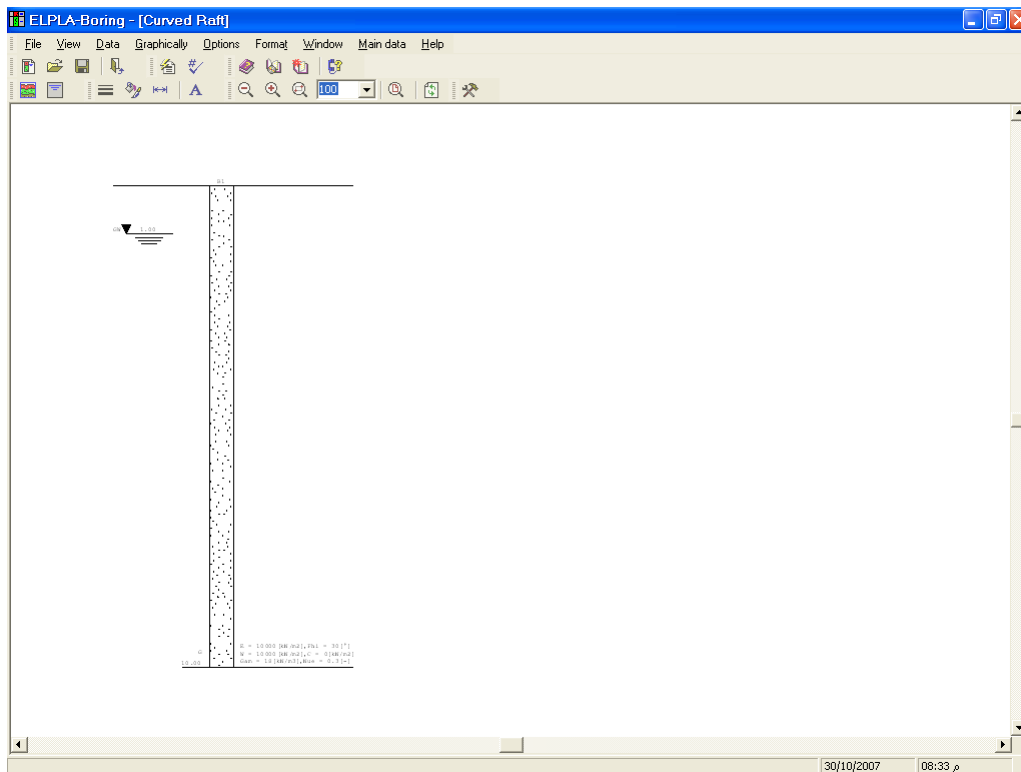
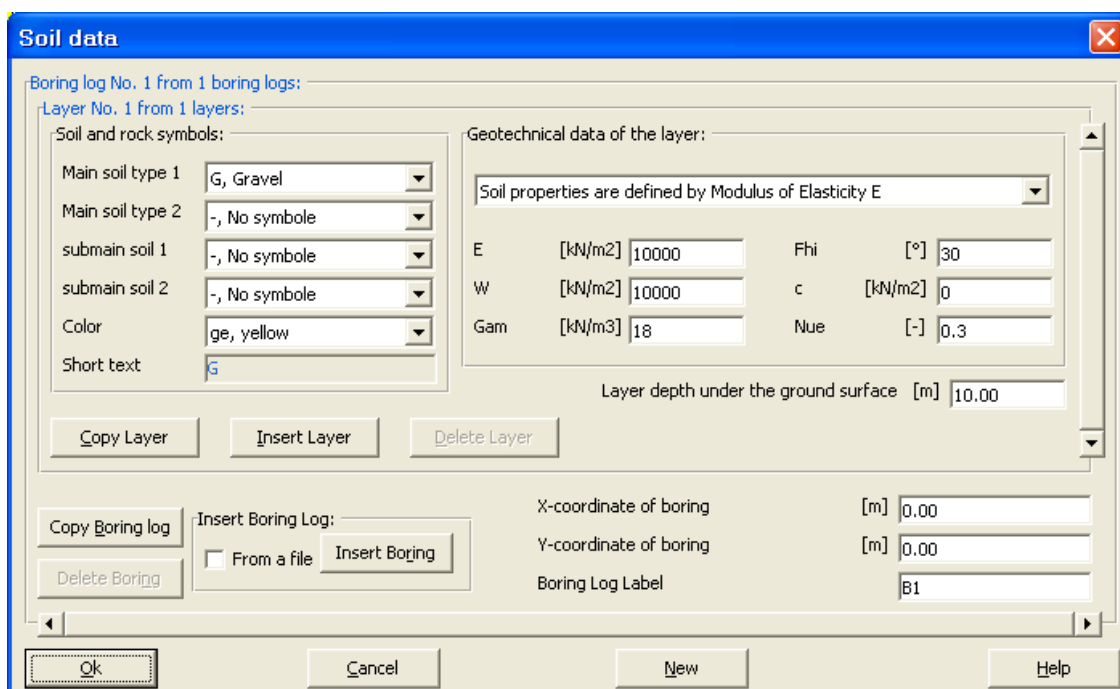
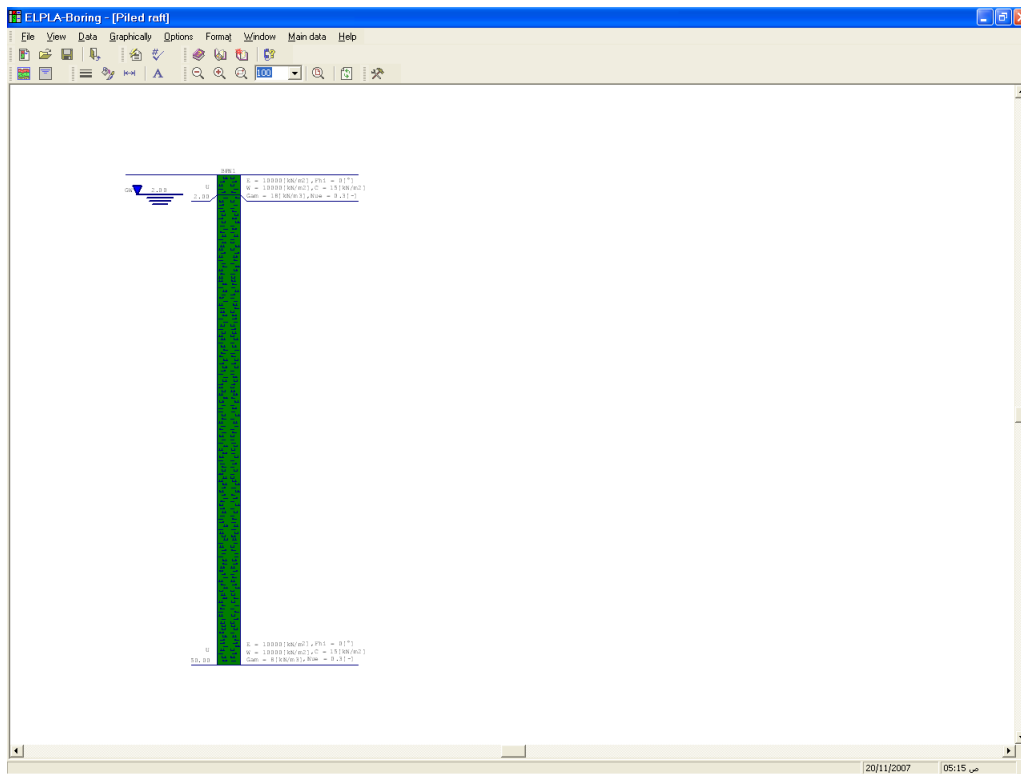

Figure 12-20 *ELPLA-Boring* sub program with a default-boring log
Figure 12-21 "Soil data" dialog box with default-boring log data
Figure 12-23 Boring log on the screen
To define the soil properties, choose "Soil properties" command from "Data" menu of *ELPLA-Data*. The following sub program in Figure 12-20 appears with a default-boring log.
- Choose "Soil data" command from "Data" menu in the window of Figure 12-20. The following dialog box in Figure 12-21 appears with default-boring log data.
In the "Geotechnical data of the layer" dialog group box in Figure 12-21, define the geotechnical data of the first soil layer of the boring log as follows:
To define the soil type and color for the first layer, select "U, Silt" as the soil type in "Main soil type 1" combo box in "Soil and rock symbols" dialog group box, Figure 12-21. The color of the silt according to the German Standard DIN 4023 will be automatically created. The user can change this color. Also, a short text "U" will be automatically created for the silt.
- Click "Layer copy" button in Figure 12-21. A layer that has the same properties of the first layer will be copied
To enter the main soil data for all layers, choose "Main soil data" command from "Data" menu in Figure 12-20. The following dialog box in Figure 12-22 appears with default main soil data. The main soil data for the current example, which are required to be defined, are the settlement reduction factor α [-] and the groundwater depth under the ground surface G_w [m]. Any other data corresponding to main soil data are not required in this example. Therefore, the user can take these data from the default soil properties.
Now all data and parameters for the boring log have been entered. After finishing the creation of the boring log, click "OK" button in "Soil data" dialog box in Figure 12-21 to see the defined boring log on the screen where the user can control or modify the input data and parameters, Figure 12-23.
- Choose "Save boring logs" command from "File" menu in Figure 12-23 to save the data of boring log
- Choose "Close boring logs" command from "File" menu in Figure 12-23 to close the *ELPLA-Boring* sub program and to return to the main window of *ELPLA-Data*